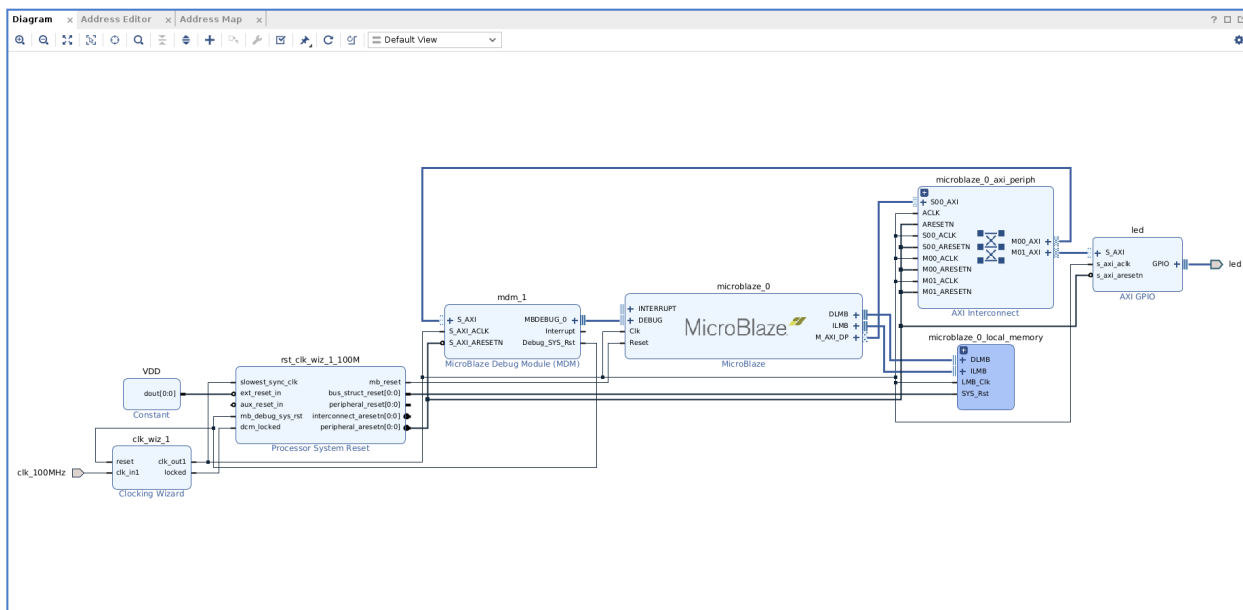

Figure 6: Final Layout
- (o) Right click on the diagram and select 'Regenerate Layout'. The final layout should look like Figure 6.